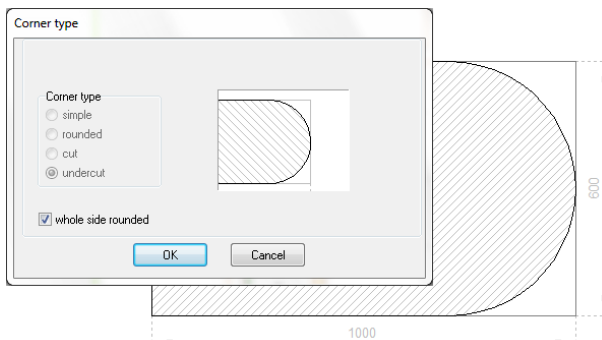

Fig. 215 – a whole side of a worktop rounded
- select the last type of the corner: **Whole side rounded** (Fig. 215);